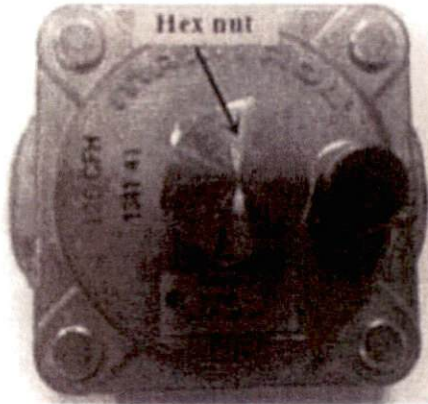
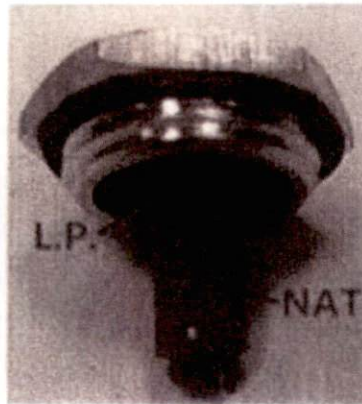

Fig. 8
Fig. 9
- 2、 Screw the hex nut (Fig. 8) before connect air intake, ensure gas mark (Fig. 9) on the plastic core match with connected gas source, if not, then pull out the plastic core and change another head, insert it again. The same as exchanging gas source.